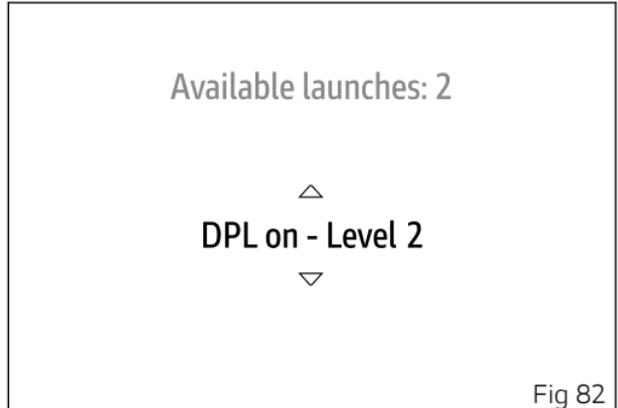

Fig 82
The screen for selecting the level for the assisted start (Fig 82) is displayed. Use buttons (1) and (2) to select the desired level (1, 2, 3) or the "Exit" item. Press the ENTER button (3) for 2 seconds to confirm the selected level.